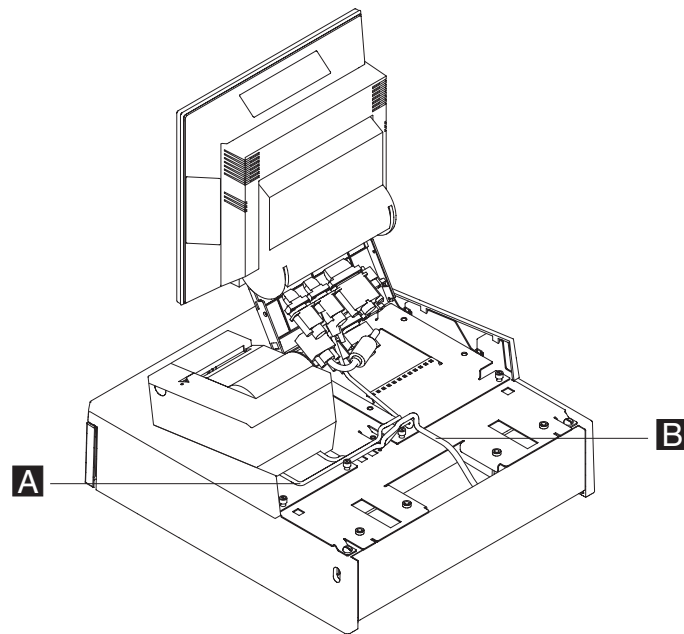

Figure 105. 4610 SureMark printer cable routing on a non-keyboard integration tray
4. Route the RS-232 cable **A** to the rear connector panel of the system unit as show in Figure 105 on page 125 and plug it into one of the three standard serial ports on the system unit.
5. Route the ac power cord **B** toward the system and out through the hole in the integration tray, as shown in Figure 105 on page 125.